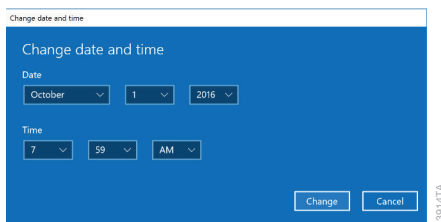

Figure 100. Adjusting date and time. Use the drop-down menus on the 'Change date and time' screen to adjust the displayed date and time on the Tablet PC.
- h. On the 'Change date and time' screen (Figure 100), use the drop-down boxes to select the appropriate date and time for your location.